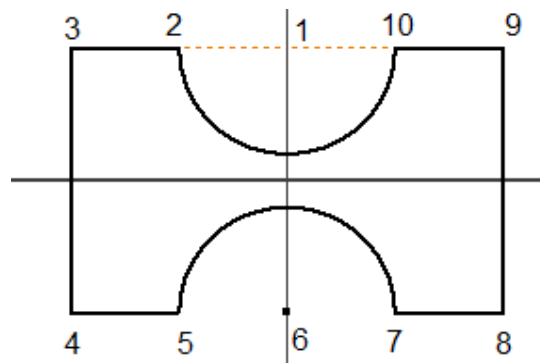

Figure 2-72 Sketch showing different points for Tutorial 3
7. Move the cursor toward left in the graphics window. Enter **12** in the length input field, press the TAB key, and then enter **90** in the angle input field in the Dynamic Input; the line between points 2 and 3 is created. Refer to Figure 2-72 for point numbers.
1. In Figure 2-72, the major and minor grid lines, and the triad have not been displayed for a better display of the sketch and the imaginary lines.